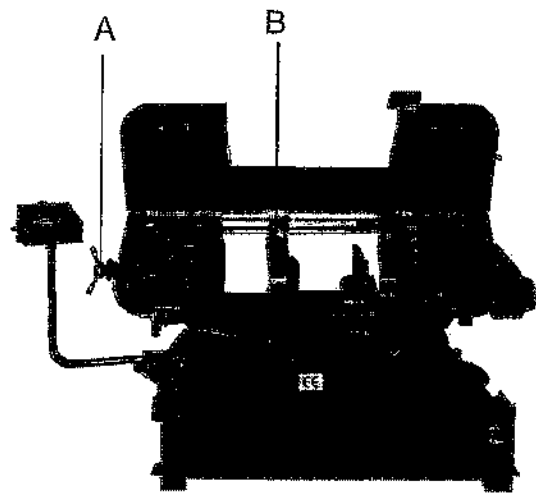

Fig. 6
4. Release blade tension by turning blade tensioning hand wheel (A - Fig. 6) counter-clockwise until blade is free.
5. Loosen lock knob and slide left blade guide arm (B- Fig. 6) to the right as far as possible.